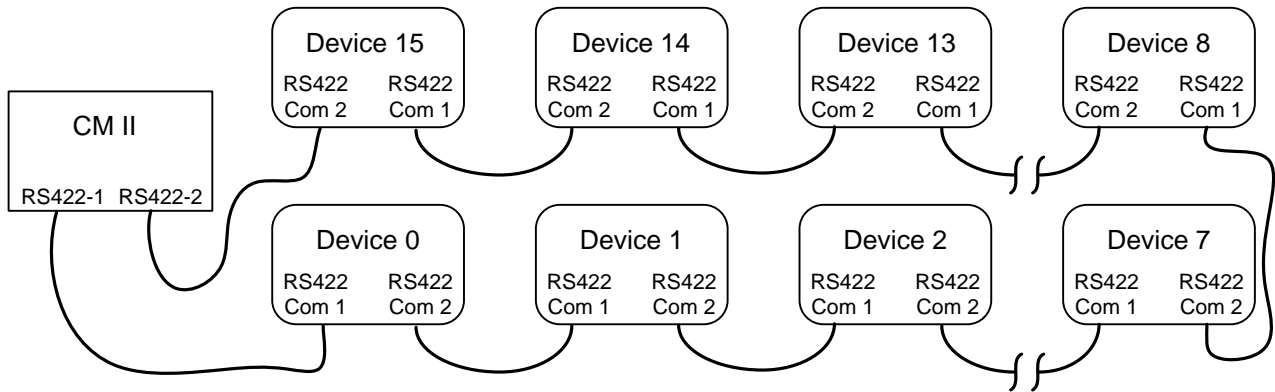

Figure 22 – Fault Tolerance Mode
Selecting “Yes” will open a prompt to “Disable” (0) or “Enable: (1) the Fault Tolerance Mode. Figure 1 show an open loop configuration where the Fault Tolerance would be disabled. Figure 22 shows a closed loop configuration where the Fault Tolerance Mode would be enabled. Enter the appropriate command for the configured system at this site.